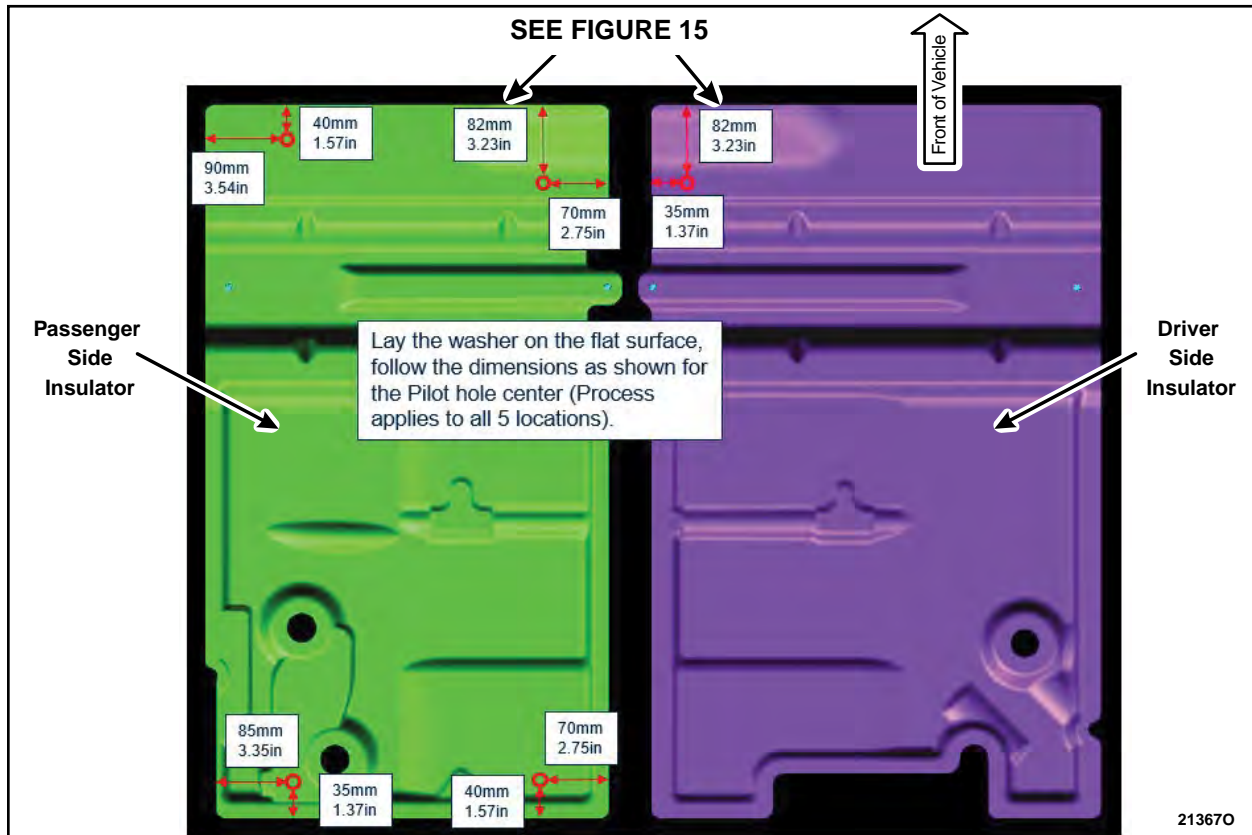

FIGURE 14
13. Measure and mark the four locations on the passenger side insulator and mark the one location on the driver side insulator. See Figures 14 and 15.